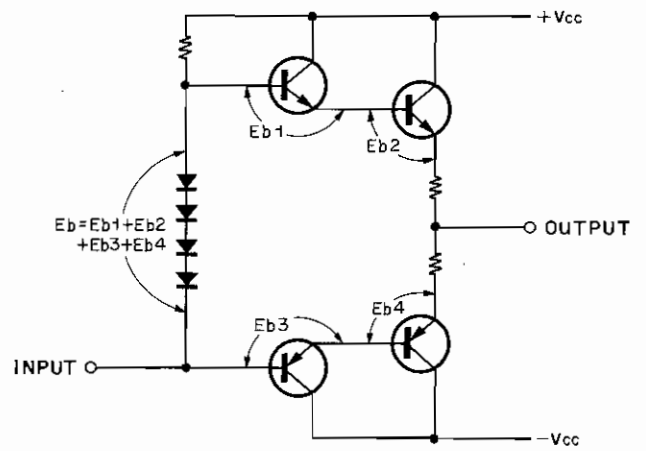
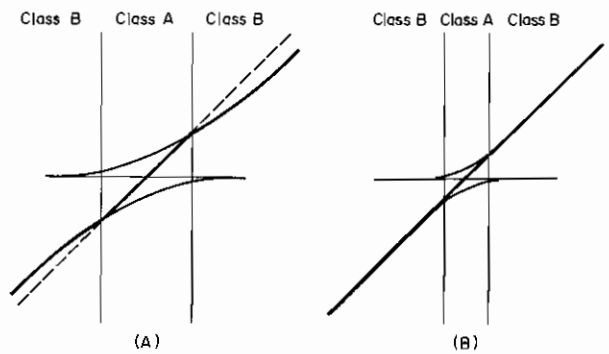
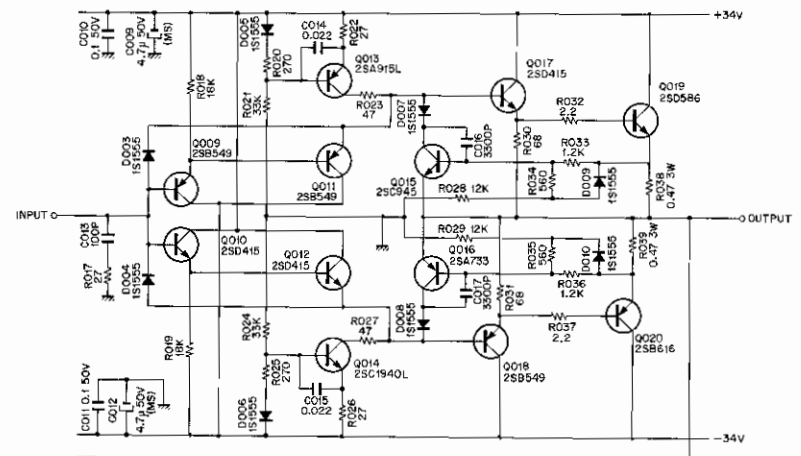
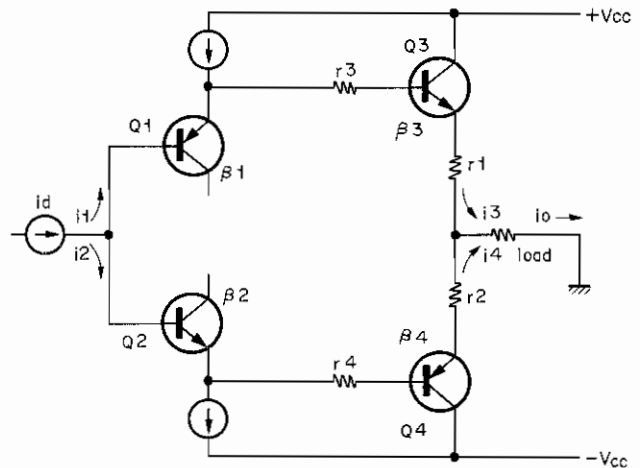

Fig. 2.4
Fig. 2.5
Fig. 2.3
Fig. 2.6
Especially for a class B push-pull amplifier, distortion cannot be reduced unless the positive and negative signal amplifiers are well balanced. The amplifier in the 420, however, is best balanced thanks to the vertically and horizontally symmetric configuration as shown in Fig. 2.3. This circuit allows distortion of only 0.1% at 1KHz 50 watts output even without NFB. This degree of distortion is low enough to make the amplifier used as a high-fidelity unit even if it is given no NFB.
Fig. 2.4 shows that a change in current flowing across the diode varies the terminal voltage and that  $E_b$  changes with signal current. These changes result in the generation of distortion. It is a matter of course that signal current flowing across the diode will produce distortion. See Fig. 2.3. Transistors Q009, Q011, Q010 and Q012 that generate bias voltage form an emitter-follower circuit of class A operation. Thus this circuit does not induce distorted signals.
For an ordinary class B amplifier, crossover distortion is reduced by increasing idling current thus overlapping the operating ranges of the positive and negative transistors. The overlap portion acts as a class A amplifier. Generally, the degree of amplification decreases where a change takes place from class A to B and no linear curve is obtained as shown in Fig. 2.5 (A). However, if the circuit shown in Fig. 2.3 is current-driven, a linear curve can be obtained at the point of change from class A to B as shown in Fig. 2.5 (B).
Fig. 2.6 illustrates a simplified version of the circuit shown in Fig. 2.3.
Since the direct-coupled two-stage emitter-followers can be regarded to be one emitter-follower having greater current amplification, the Q009–Q011, Q010–Q012, Q017–Q019, and Q018–Q020 will be designated respectively to be Q1, Q2, Q3 and Q4 as shown in Fig. 2.6.